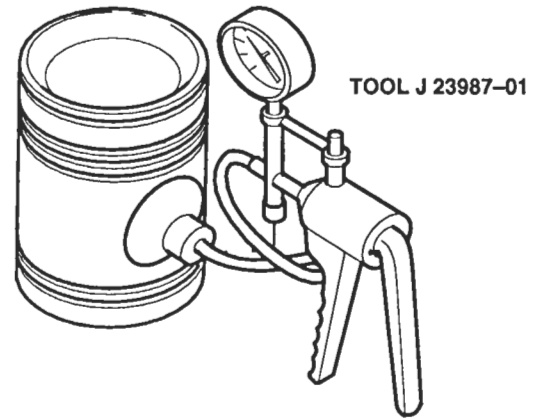

Figure 19. Checking Piston Pin Retainer for Proper Sealing
12. One important function of the piston pin retainer is to prevent the oil, which cools the underside of the piston and lubricates the piston pin bushing, from reaching the cylinder walls. Check each retainer for proper sealing with leak detector J 23987-01 (Figure 19.) Place the suction cup over the retainer and hand operate the lever to pull a vacuum of ten inches on the gage. A drop in the gage reading indicates air leakage at the retainer.